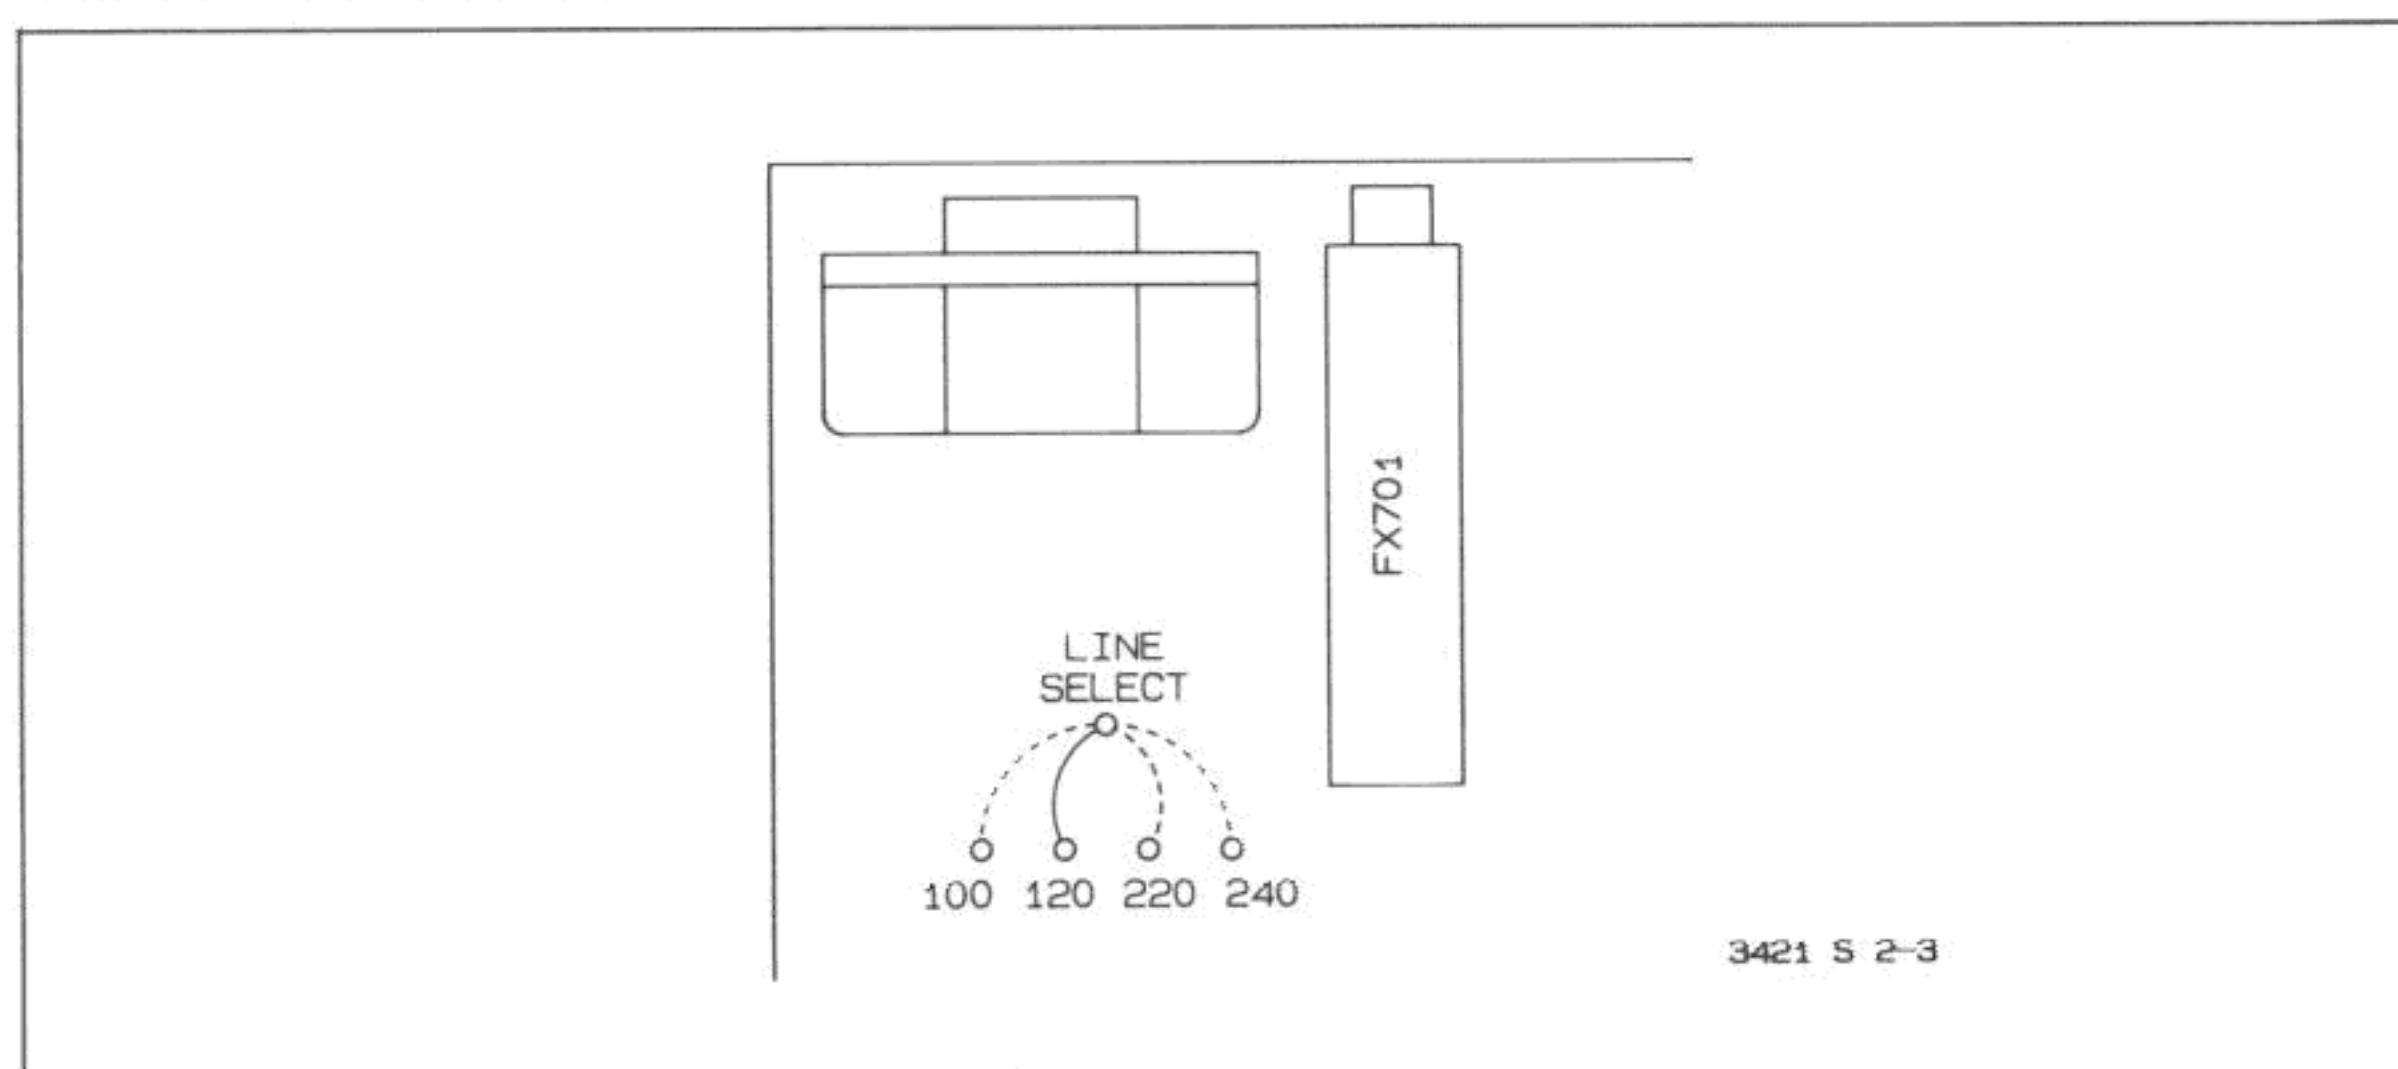

Figure 1-2-3. AC Line Voltage Selection
- d. Refer to Figure 1-2-3 and locate the line voltage select wire and four terminals next to fuse holder FX701.